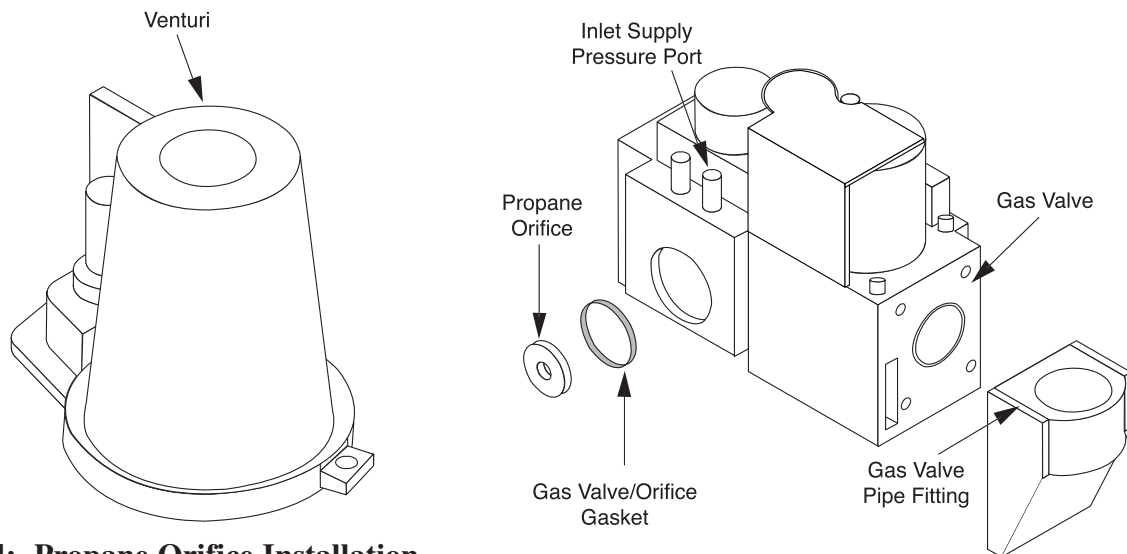

Fig. 4: Propane Orifice Installation
11. Reassemble the new gas valve, gas valve/orifice gasket and the three Torx screws from the kit and reassemble the gas valve to the venturi. See Fig. 4.